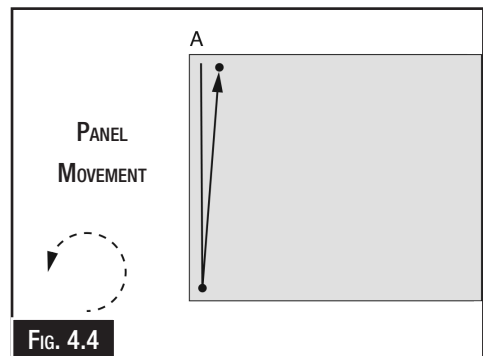

FIG. 4.4
3. Turn the workpiece counterclockwise slightly. (Fig. 4.4)